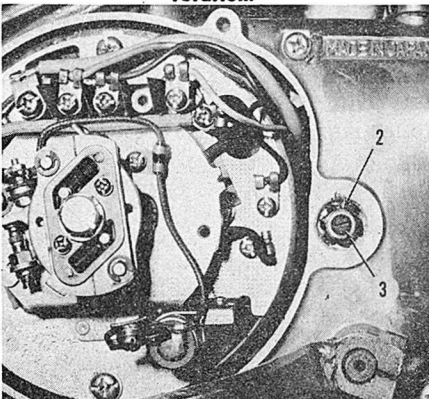
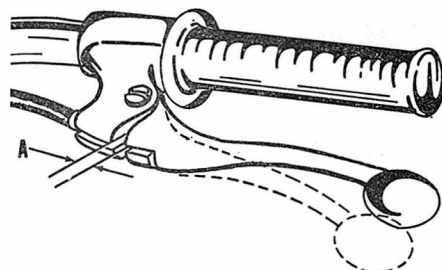

Fig. Y10-7—Remove left engine cover for access to clutch adjustment screw.
Fig. Y10-8—Adjust clutch lever for  $\frac{1}{8}$  to  $\frac{1}{4}$  inch free play at (A).
**CLUTCH CONTROLS.** Clutch is adjusted by loosening lock nut (2—Fig. Y10-7) and turning screw in until it seats lightly, then back screw out  $\frac{1}{4}$  turn and tighten lock nut. Clutch lever should have  $\frac{1}{8}$  to  $\frac{1}{4}$  inch free play as shown in Fig. Y10-8.